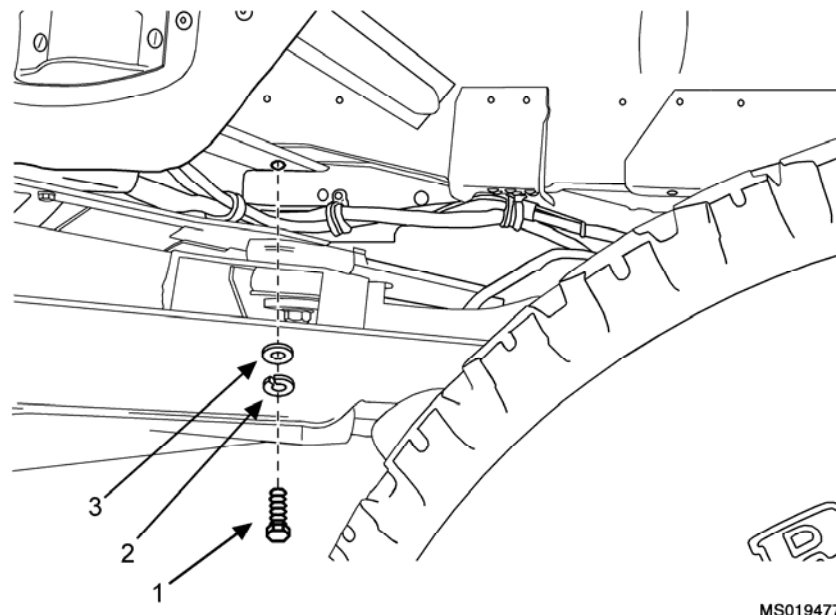

Figure 4. Rear Attachment (Typical Three Places)
5. Bolt rear of main box in place with three 3/8-16 x 2 inch bolts (1), lock washers (2) and flat washers (3). Bolt locations are underneath vehicle. (Figure 4)
Mounting Bar P/N 50154-799 (Figure 4, Item 18, WP 0027 00)